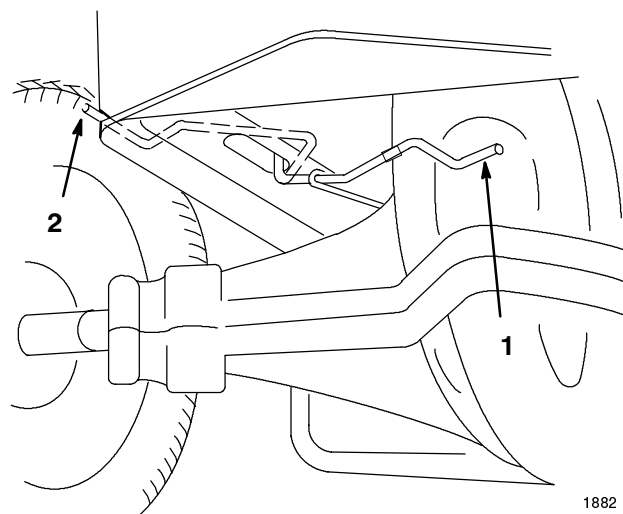

Figure 12
2. Move the drive control to the “PUSH” position. This disengages the drive system and allows the wheels to turn freely (Fig. 12).
1. Move the drive control to the “OPERATE” position. This engages the drive system (Fig. 12).